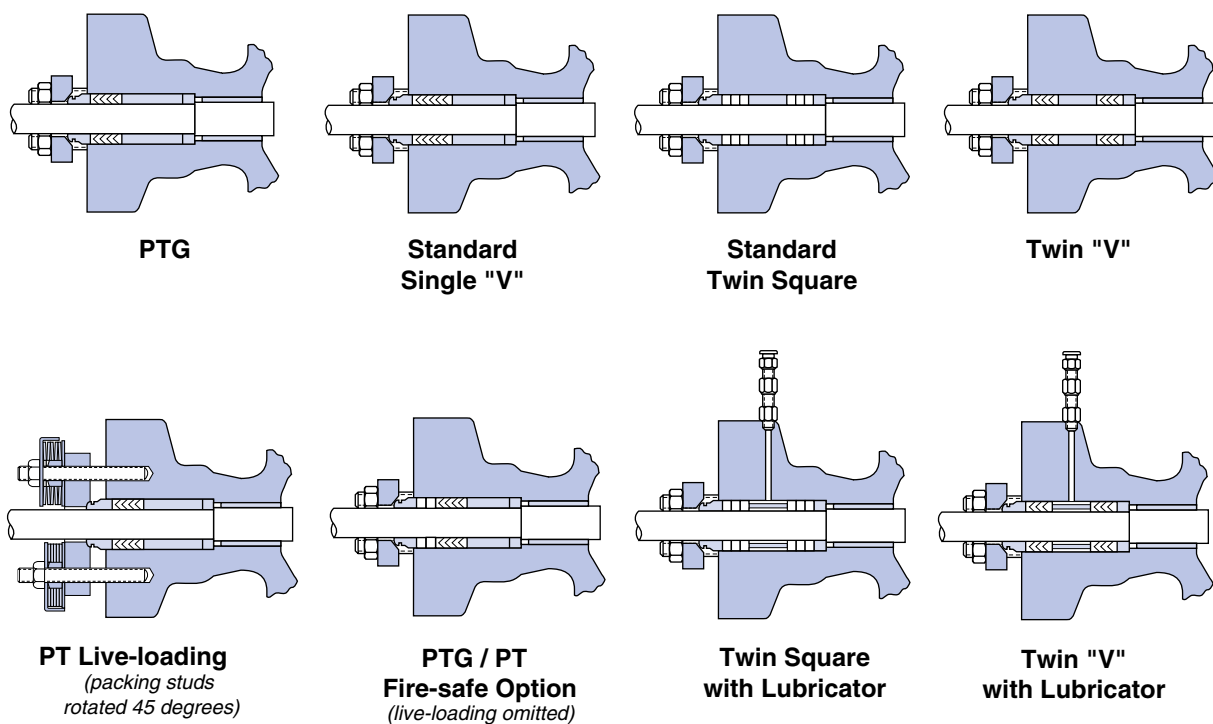

Figure 3: OpVe Packing Configurations
9. Slide the thrust bearing, packing spacer, packing, and packing follower over the splined end of the shaft and into the body. Typical packing configurations are shown in Figure 3. (1-inch designs refer to Step 6.)